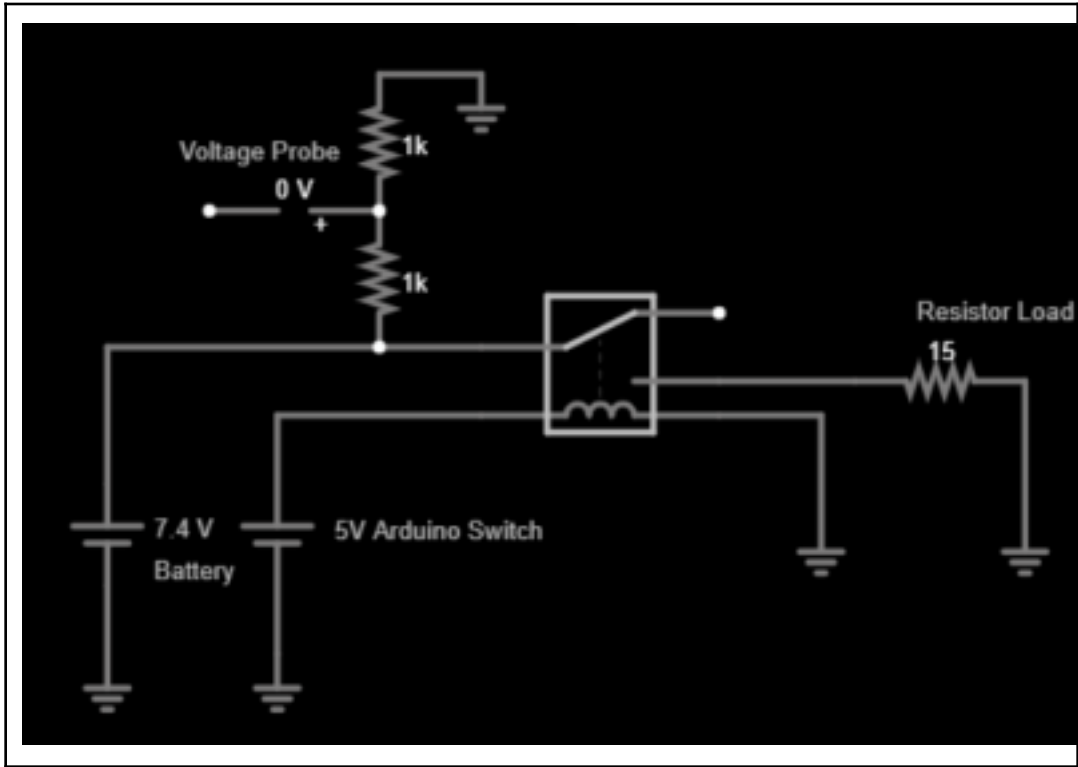

Figure 1
1. Connor designed a circuit to simulate the current draw on the battery when the derailleur is shifted. The circuit can be seen below in figure 1.